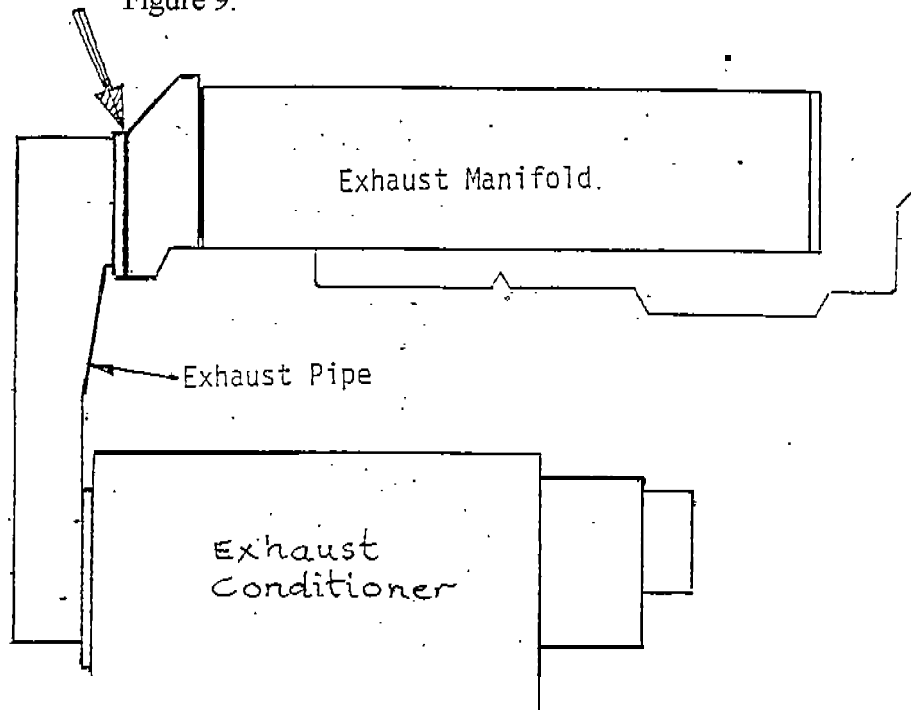

Figure 9, Gasket between Exhaust Pipe and Exhaust Manifold Flange
- (WEEKLY) 13. ( ) A copper or bronze gasket is installed between the flange of the exhaust pipe and the flange of the exhaust manifold as shown in Figure 9.